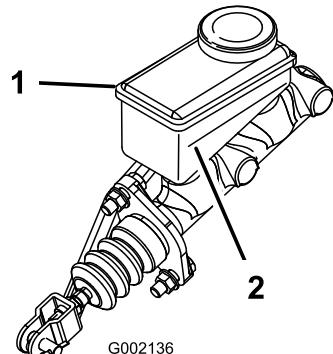

Figure 54
- Look at the outline of the fluid level at the side of the reservoir (Figure 54).
- Add DOT 3 brake fluid to the reservoir until the fluid level is above the Minimum line (Figure 54).